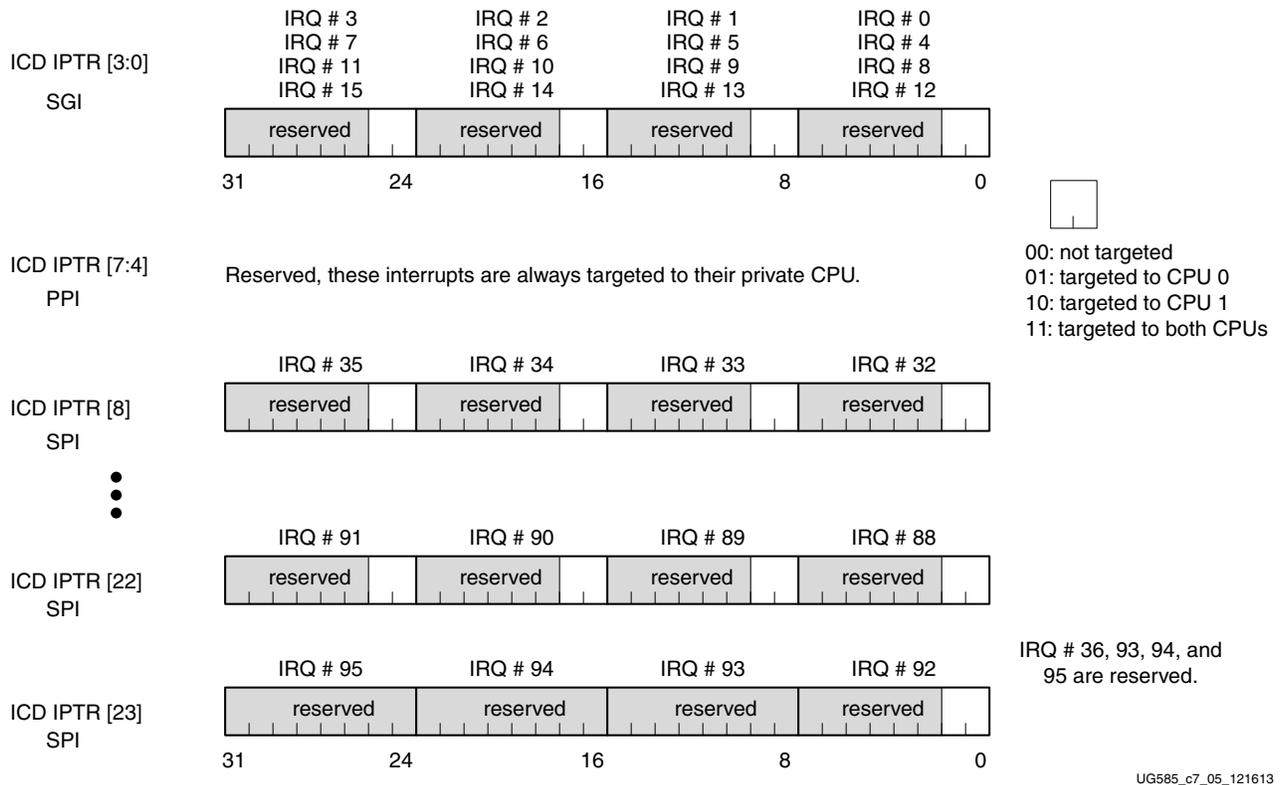

Figure 7-5: Interrupts ICDIPTR Register for Targeting CPU
- mpcore.ICDIPTR[23:0] registers: targeting CPU(s). See Figure 7-5.